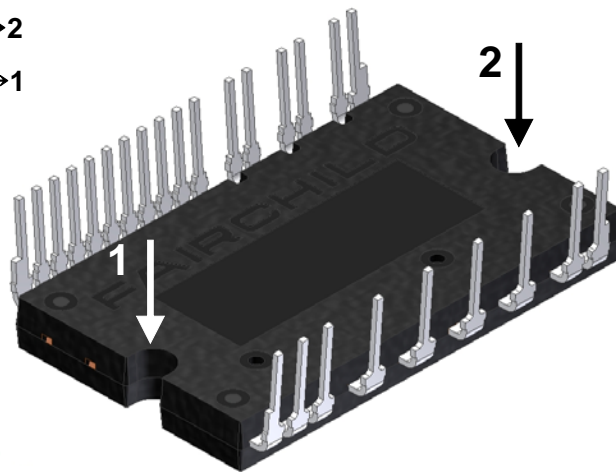

Figure 10. Mounting Screws Torque Order
11. Avoid one side tightening stress. Figure 10 shows the recommended torque order for mounting screws. Uneven mounting can cause the ceramic substrate of the SPM® 45 package to be damaged. The pre-screwing torque is set to 20 ~ 30% of maximum torque rating.